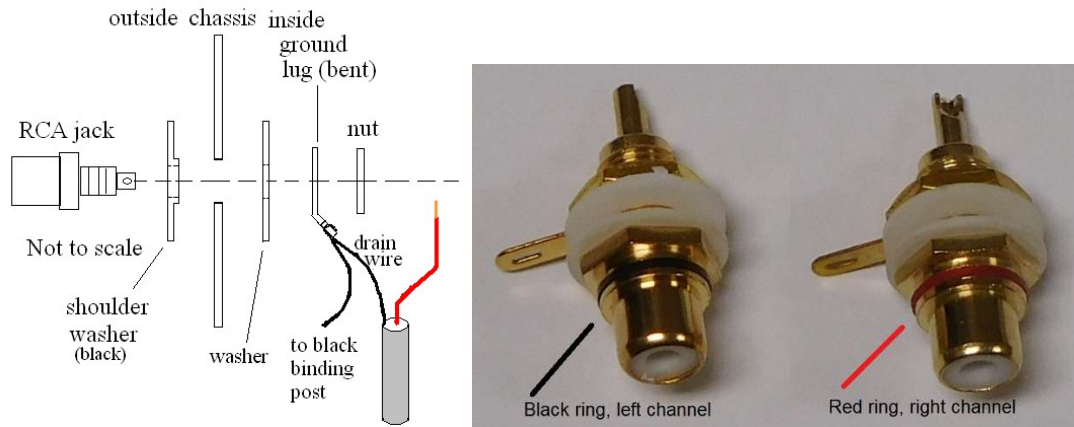

Figure 36-Installing RCA jacks. A half inch socket driver makes installation easier.
The left channel RCA jack has a black ring. Install it from the outside of the chassis into the left channel (marked) RCA jack hole. The mounting hardware arrangement is shown in Figure 36. Use the left channel shielded cable and ground harness that you previously built.
1. Insert the RCA jack and the *two insulating washers* and ground lug as shown in Figure 36. The ground lug already has two black wires attached. Tighten the mounting nut. Note that there are shoulders on the insulating washer that keep the RCA connector's body from touching the chassis.
The right channel RCA jack has a red ring. Install it from the outside of the chassis into the right channel (marked) RCA jack hole. The mounting hardware arrangement is shown in Figure 36. Use the right channel shielded cable and ground harness that you previously built.